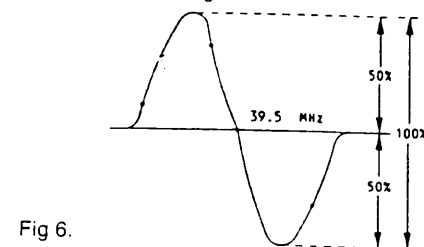

Fig 6.
- Adjust T105 (AFC coil) for waveform as shown in fig. 6.